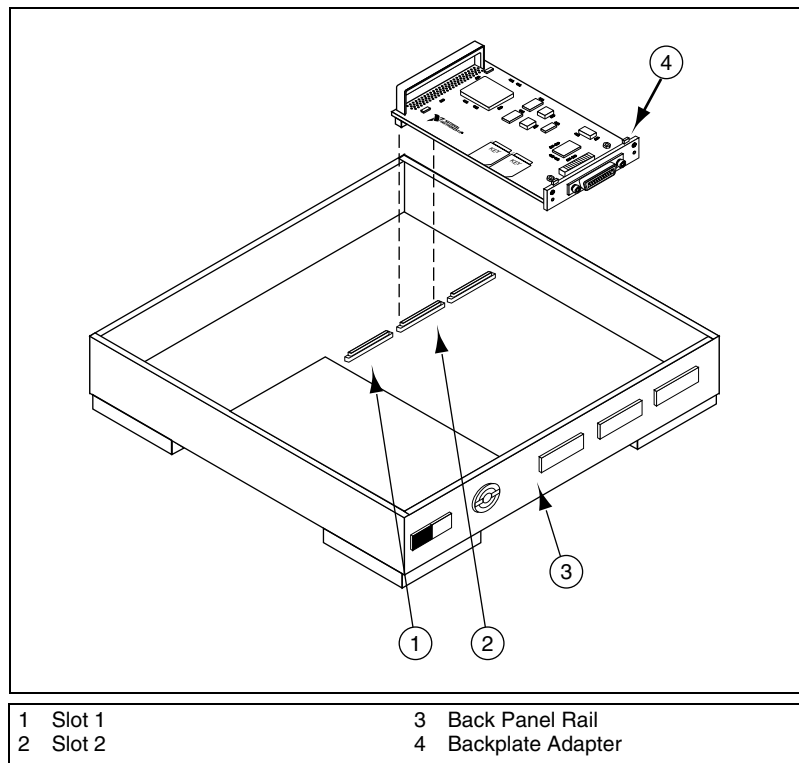

Figure 2-1. Installing the SB-GPIB/TNT or SB-GPIB
7. Insert the GPIB board into the slot with the GPIB connector sticking out of the opening on the back panel, as shown in Figure 2-1. Do *not* insert the board into a slave-only physical slot if you are using DVMA; only programmed I/O transfers are possible in slave-only slots. Refer to the documentation for your Sun SPARC system for information about DVMA master and DVMA slave slots.